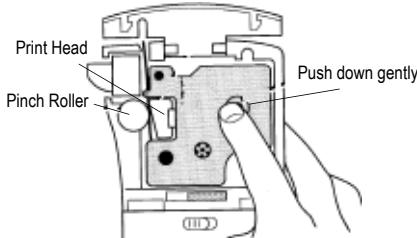

Figure 4
3. Insert the cartridge with the label and ribbon positioned between the print head and pinch roller. See Figure 4.